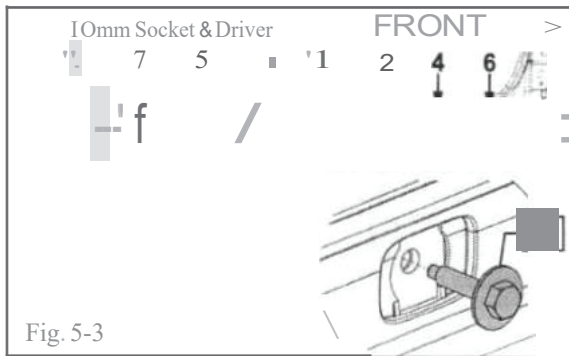

Fig. 5-3
(c) Insert and hand start one (1) M6 bolt @ at center hole #1 on the outer facing flange (Fig. 5-3).
(d) Insert and hand start six (6) M6 bolts @ at the remaining locations on the outer facing flange (Fig. 5-3).
(e) Tighten and torque the bolts to 7 N·m per the sequence indicated in Fig. 5-3.